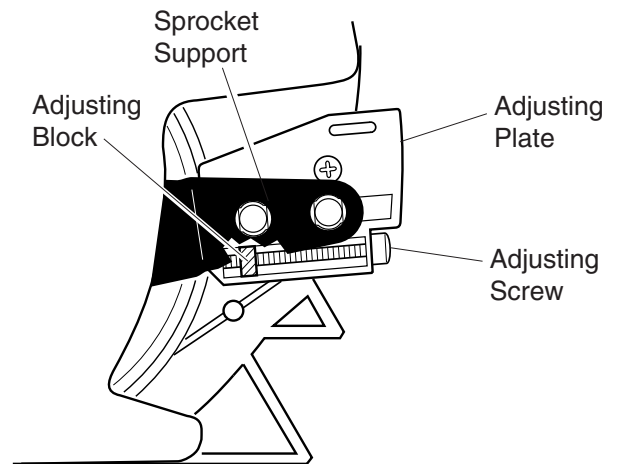

Figure 4 - Part Locations for Assembling Guide Bar
3. Turn adjusting screw counterclockwise (see Figure 4). Continue to turn adjusting screw until adjusting block is to rear of adjusting plate.